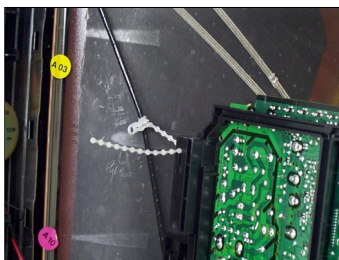

Fig.5.
1. Remove the bead clasper from the mains lead and attach to the degauss coil, shown in Fig.5.
6. Clip the chassis frame onto the bead clasper, on the degauss coil, as shown in Fig.5.